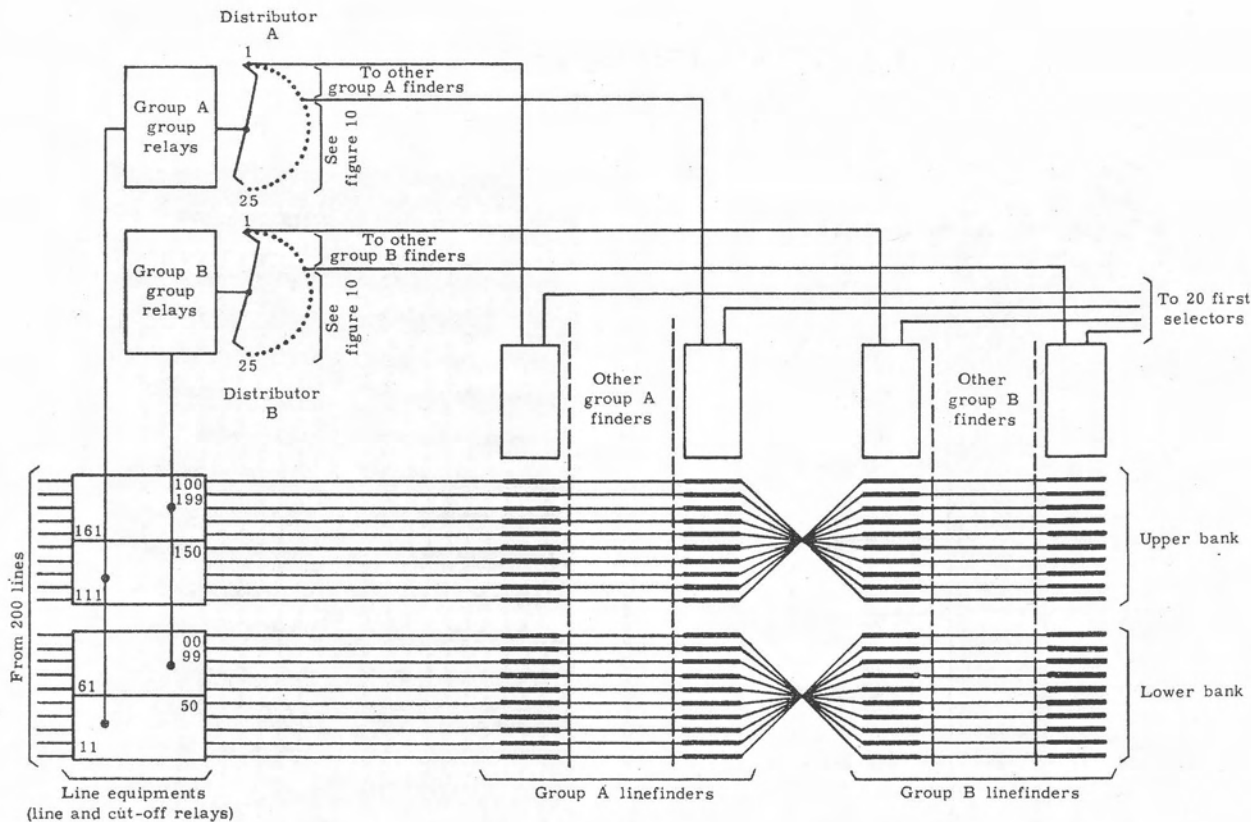
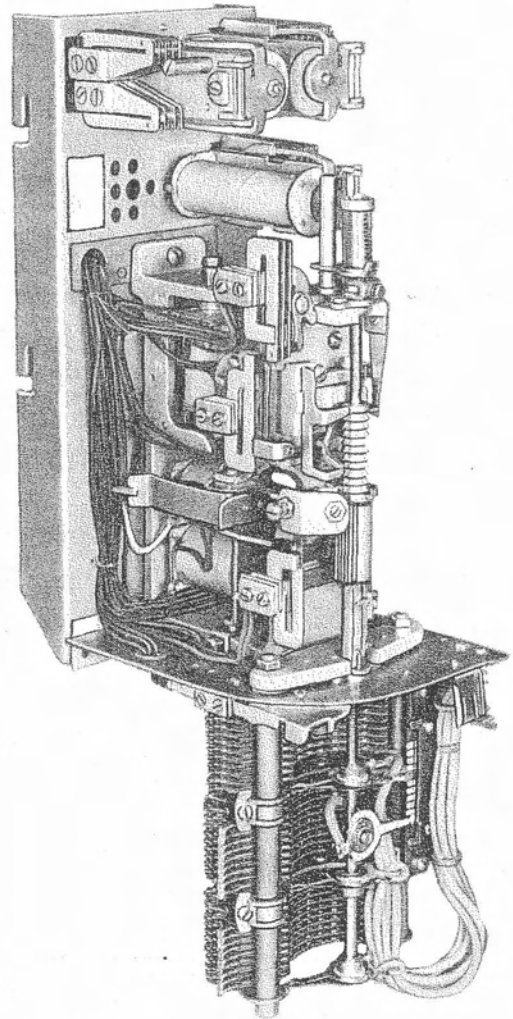
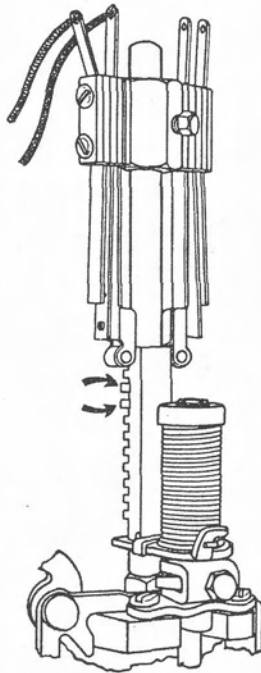

Figure 3. Two-hundred-line linefinders with bank reversal for preferential hunting.
Figure 11. Two-hundred-line linefinder switch.
Figure 14. Normal-post springs.
1.5 Preferential hunting. Any calling line can be reached with a maximum of twenty steps of the linefinder, ten steps up and ten steps across. The average hunting time is reduced by reversing the bank multiple (figure 3). Then all lines are in the lower five levels of some linefinders' banks and can be reached in a maximum of fifteen steps, five up and ten across. The finders having each hundred's lower-numbered line equipments connected to the banks' lower five levels are called group A finders. The finders having each hundred's higher-numbered line equipments connected to the banks'
lower five levels are called group B finders. (Figures 3 and 12). With this arrangement, two distributors and two relay groups are necessary. A lower-numbered line equipment activates group A relays which start a preselected group A linefinder. A higher-numbered line equipment activates group B relays and a group B linefinder. This is known as "preferential hunting". A group A and a group B linefinder can be hunting simultaneously. If a low-numbered line equipment operates and all group A linefinders are busy, it will activate the group B relays which will cause a group B linefinder to connect to the line. Group A linefinders will likewise assume the group B linefinders' load when all group B linefinders are busy. This feature is valuable not only to give faster service but also permits routing the switches and group relays without denying service to any subscriber.
3.4 Linefinders. The linefinder (figure 11) connects the calling line to the associated idle selector. Every line is connected to the contact banks of all the linefinders on its shelf. Each line has a + wire, a - wire, and, within the central office, a control wire. Figure 12 shows their location on the group A and group B linefinder banks. (In the control bank each number represents a metallic contact; each horizontal line, an insulator.) The line contacts for line equipments 00 to 99 are in the lower line bank and the line contacts for line equipments 100 to 199 are in the upper line bank. The control contacts of the 200 lines are in the control bank. Those lines appearing on the lower levels of group A linefinder banks appear on the upper levels of group B linefinder banks (figures 3 and 12) because of the reverse multiplying between the groups. The linefinder's vertical wiper (figure 11) touches a different vertical contact after each vertical step. The bottom vertical contact keeps the vertical-bank wiper properly aligned when at its normal position.
A typical 200-line linefinder consists of a Strowger switch and three relays mounted on a base plate (figure 11). A metal cover (not shown) protects the assembly from dust and physical injury. The Strowger switch mounts, in addition to those contacts already mentioned, vertical-off-normal contacts (which release mechanically when the shaft and wipers are lifted from their normal position), rotary cam contacts (operating when the shaft and wipers take the eleventh rotary step), and normal-post springs (operating when the linefinder shaft and wipers rise to a level whose lug (figure 14) has been bent*, §6.1, §6.2, and §6.3). The pattern of bent lugs